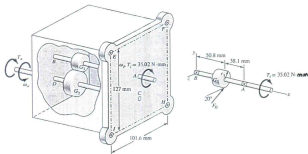

Figure 5
- Determine the fatigue stress concentration factor K_f for the critical element A, as shown in Figure 5.
A gear reduction unit (Figure 5) has input shaft AB and output shaft CD, with an input torque of $T_1 = 35.02 \text{ N}\cdot\text{mm}$ at constant speed $\omega_1 = 60 \text{ rev/min}$ driving an output load torque T_2 at output speed ω_2 . Shaft AB (shown separately with dimensions) is supported by deep-groove angular contact ball bearings at A and B, which can be treated as simple supports. The pitch radii of the gears are $r_1 = 25.4 \text{ mm}$ and $r_2 = 35.02 \text{ mm}$. The targeted combined reliability for the entire set of four bearings is 92 percent, for a life of 30 000 hours of operation.